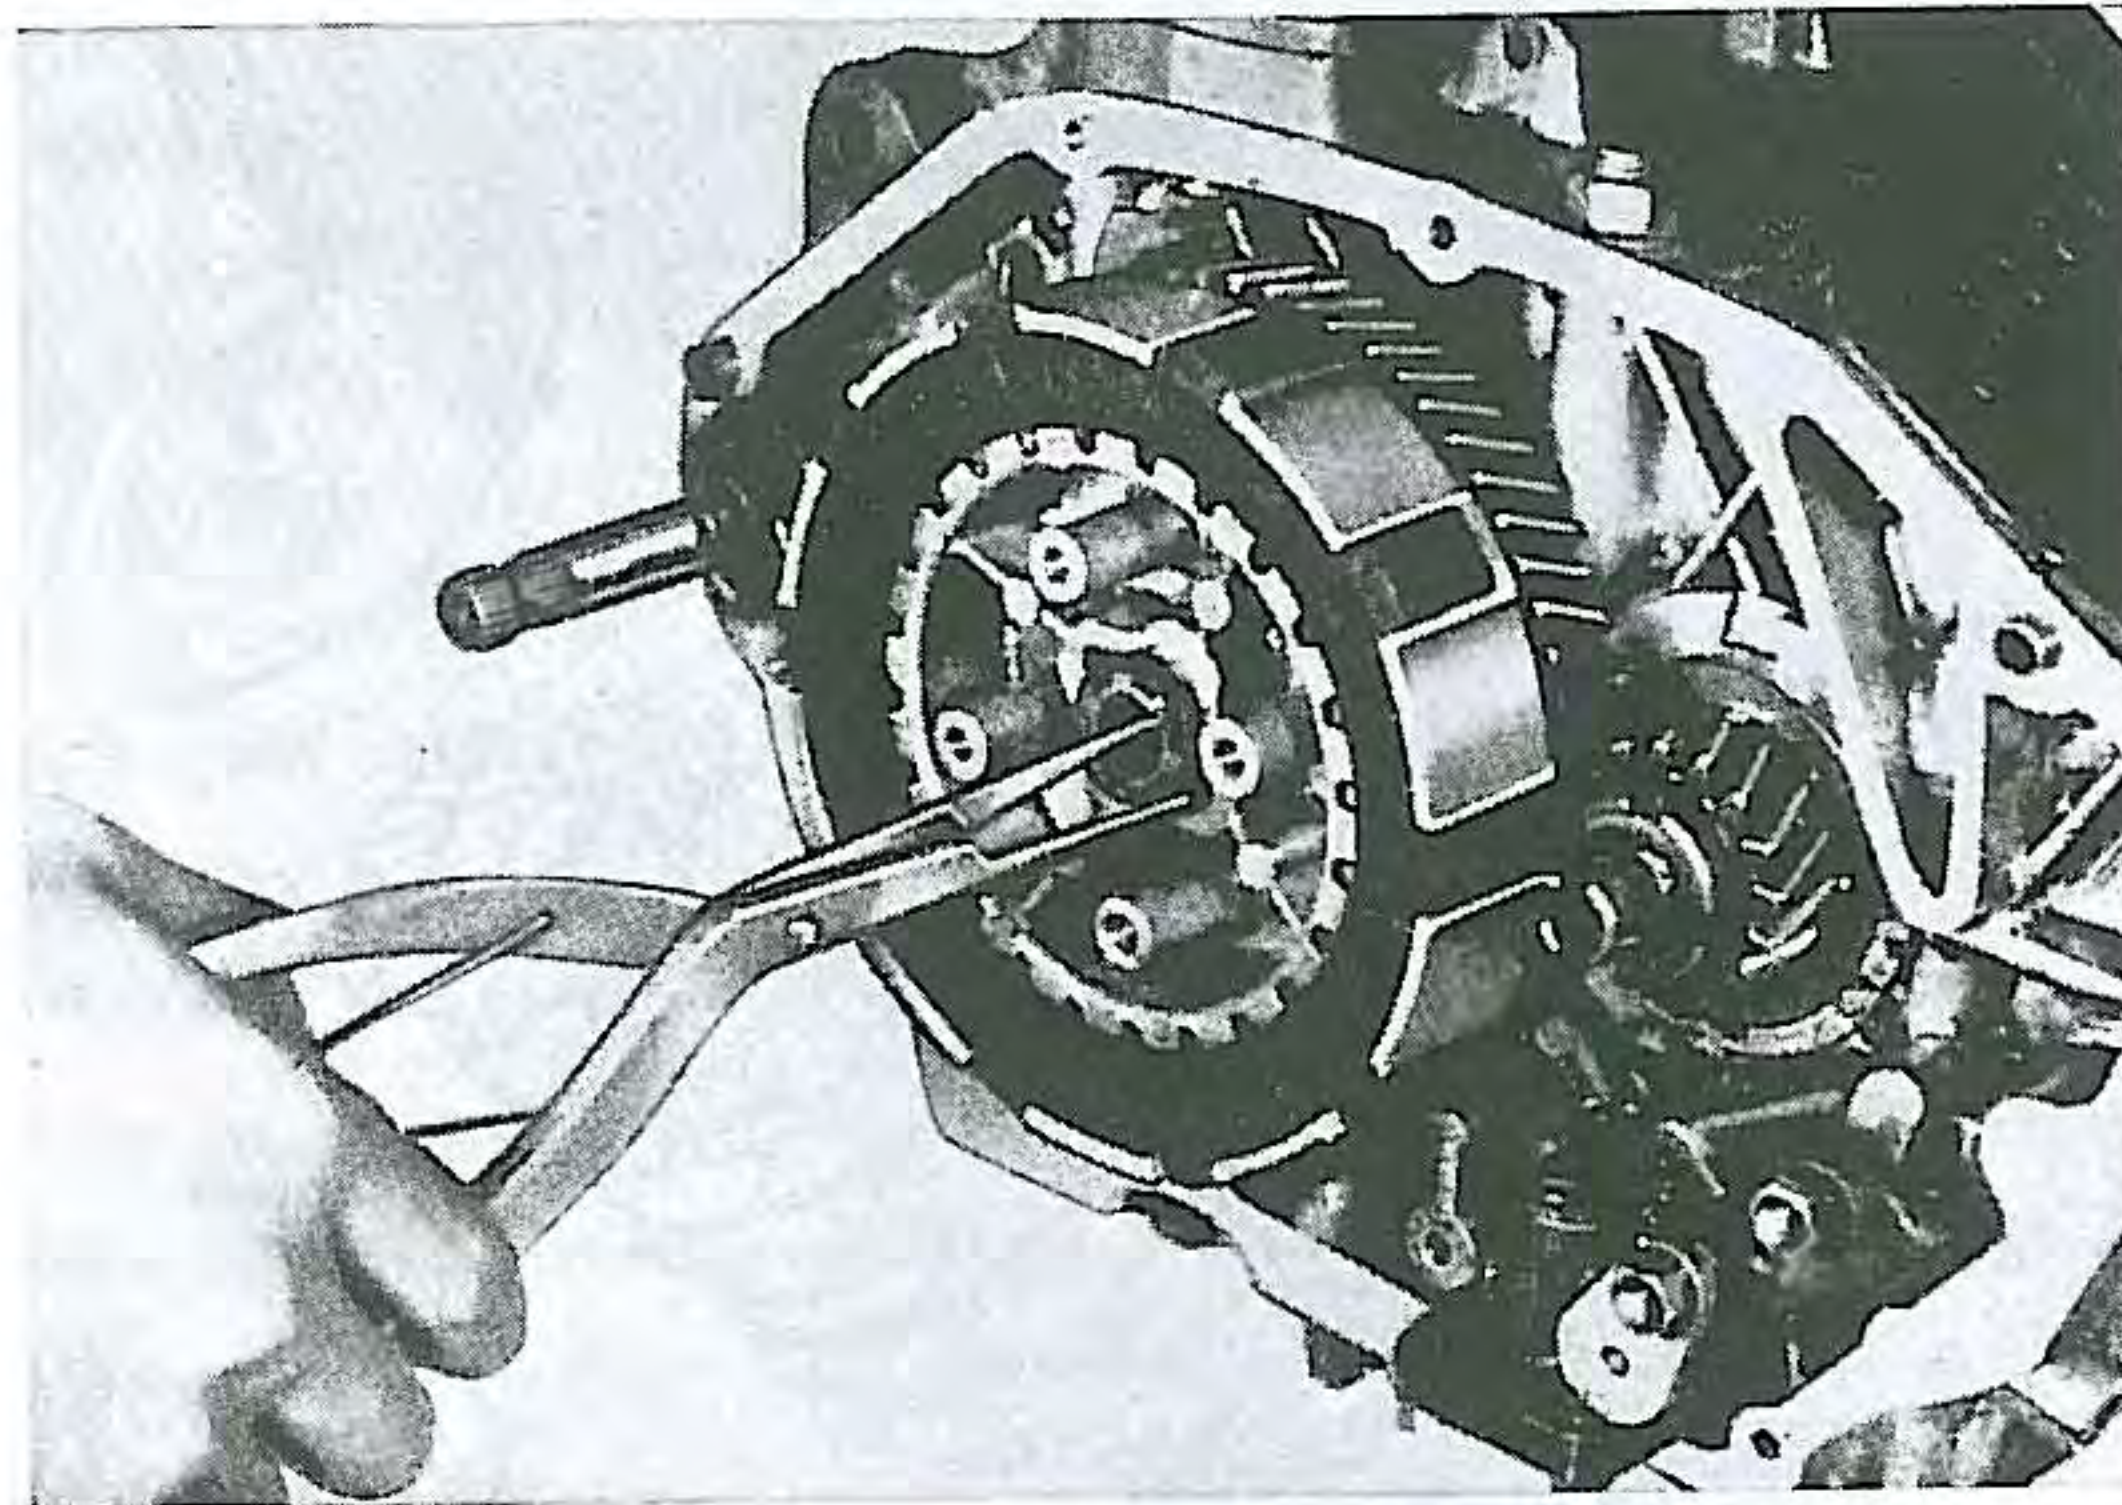
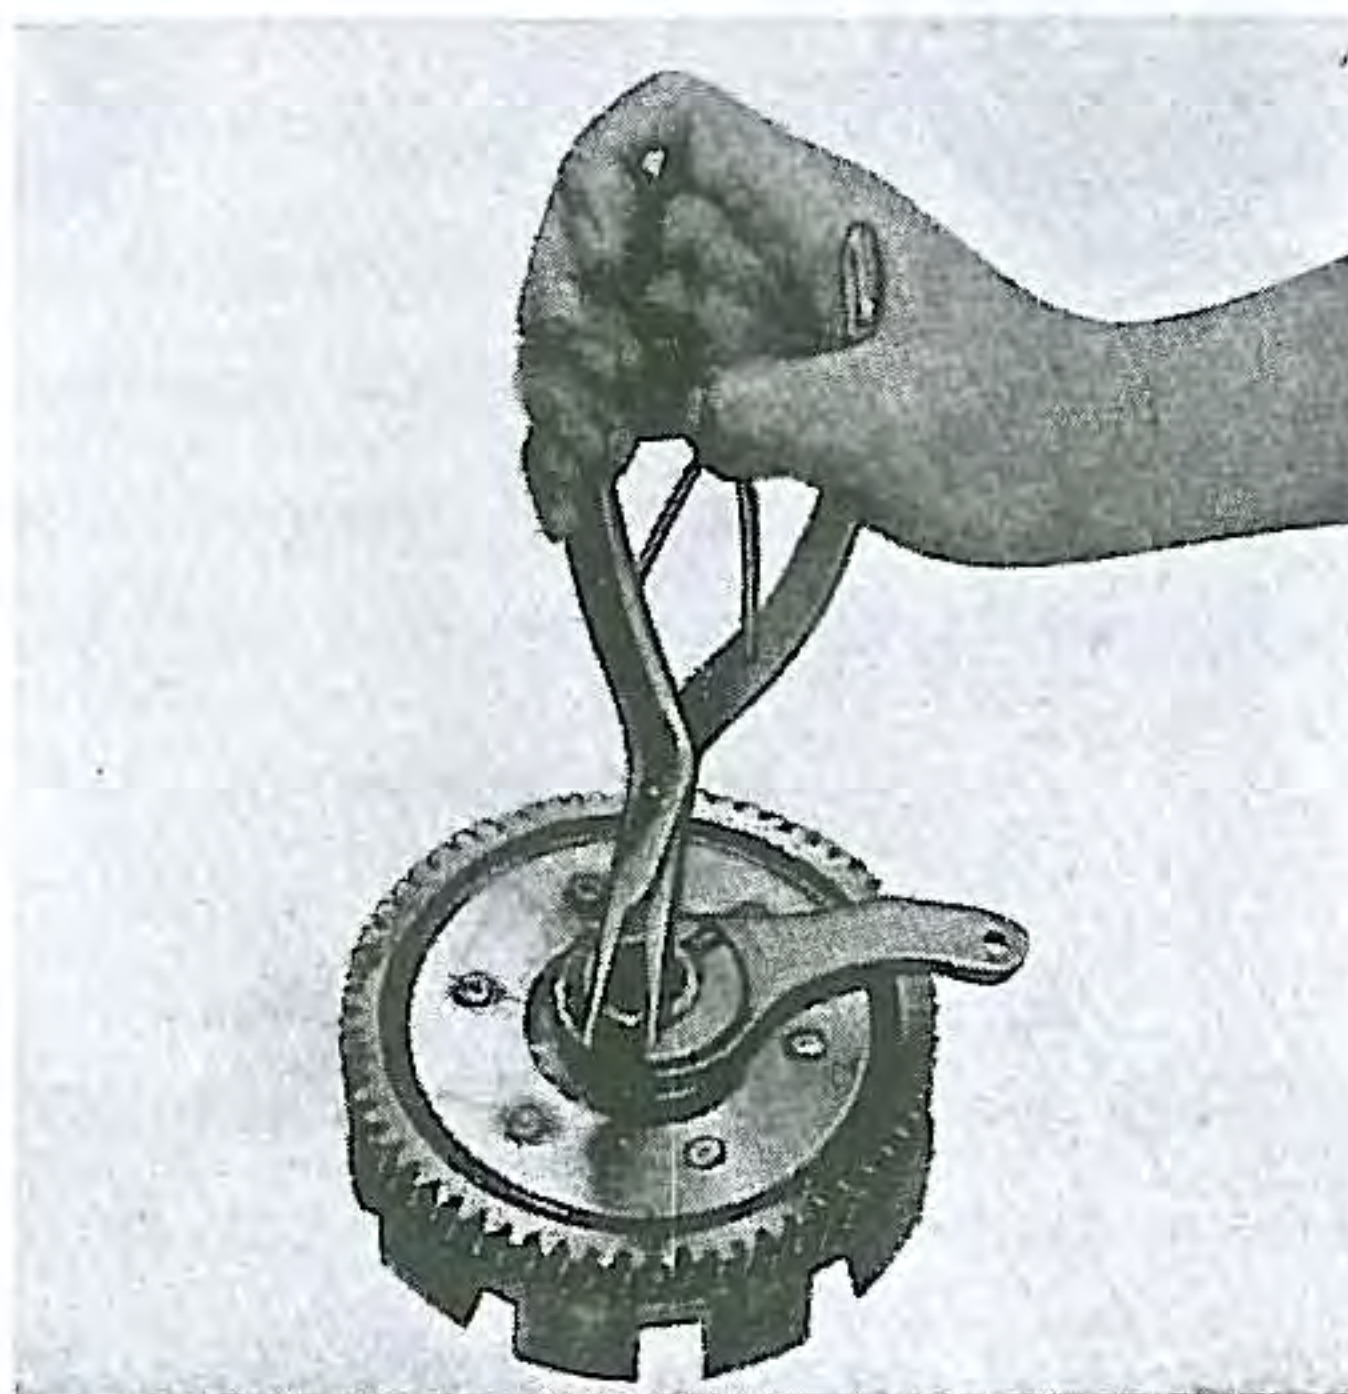

Fig. 77. Removing clutch center retaining set ring
Fig. 78. Removing oil pump rod set ring
- (5) Remove the set ring at the end of the transmission main shaft using set ring remover. Then the clutch center may be removed. (Fig. 77)
- (6) Remove the plunger oil pump mounting stud nut and holding bolt.
- (7) The clutch outer and the oil pump is removed as a unit, pulling them out together. Remove thrust washers.
- (8) Separate the oil pump plunger arm and piston from the oil pump body.
- (9) When required to remove the pump arm from the clutch outer, remove the set ring mounted behind it with a set ring remover. (Fig. 78)